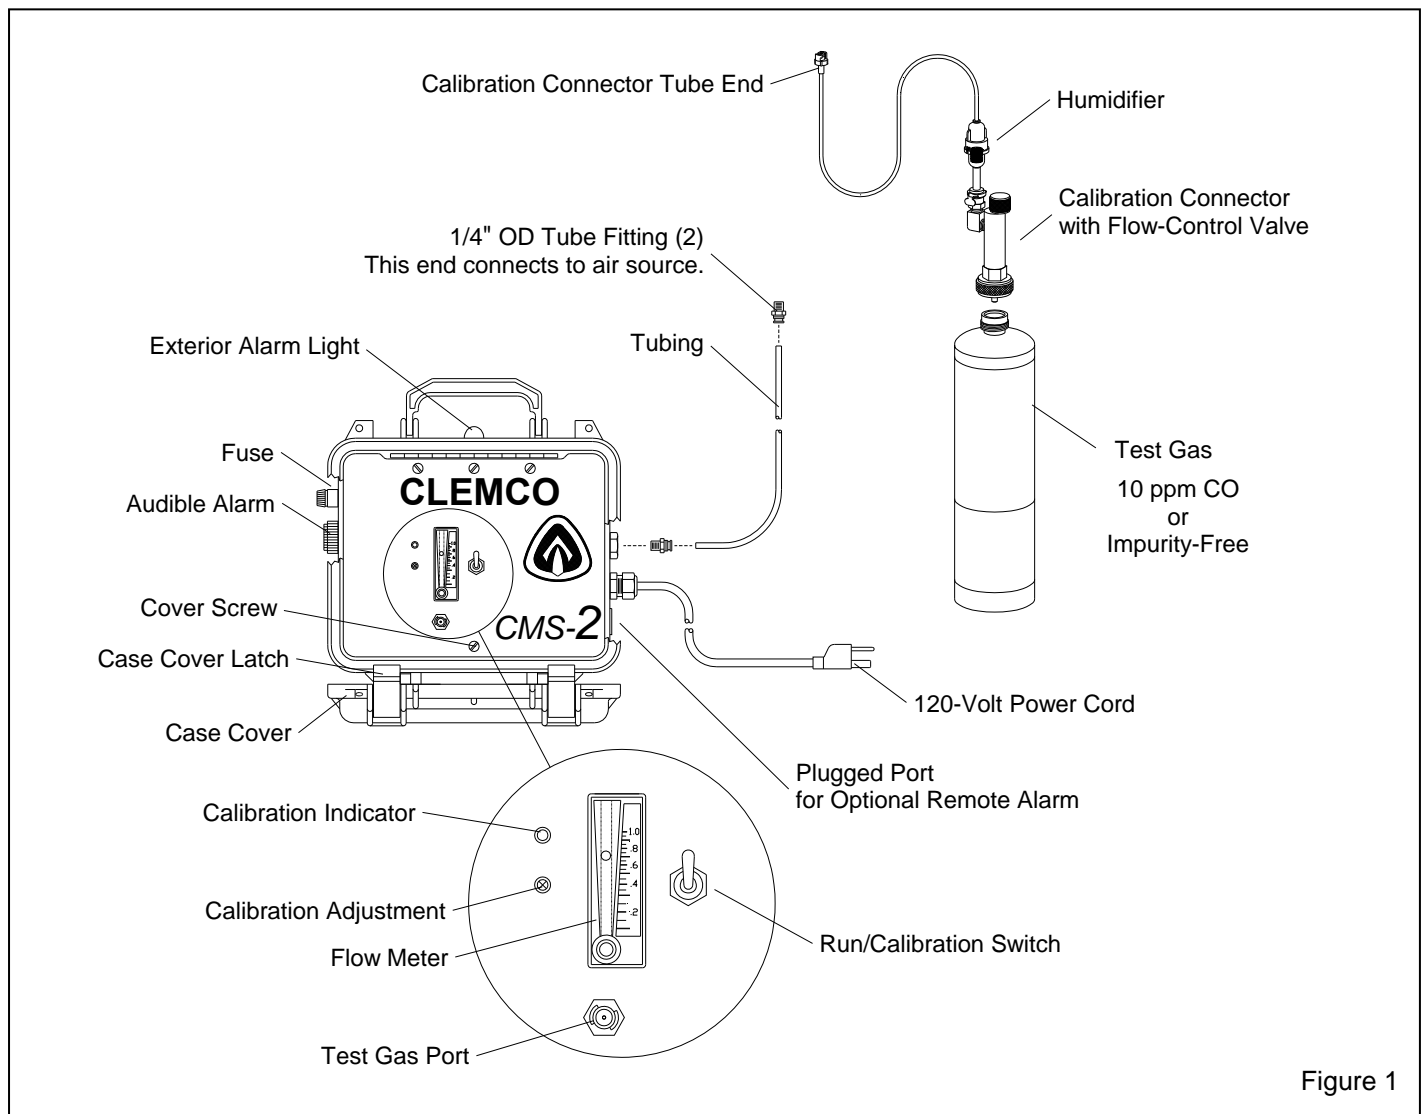

Figure 1
1.4.1 The primary components of the monitor are shown in Figure 1. The instrumentation is enclosed in a corrosion resistant polypropylene carrying case. The monitor system includes the instrument case, 10 feet of 1/8" ID x 1/4" OD tubing with fittings, a cylinder of 10 ppm (parts per million) test gas, calibration connector that includes the connector valve, tubing, and humidifier.
2.4.4.3 Loosen the cover screw located in the center of the lower edge of the faceplate. Refer to Figure 1.